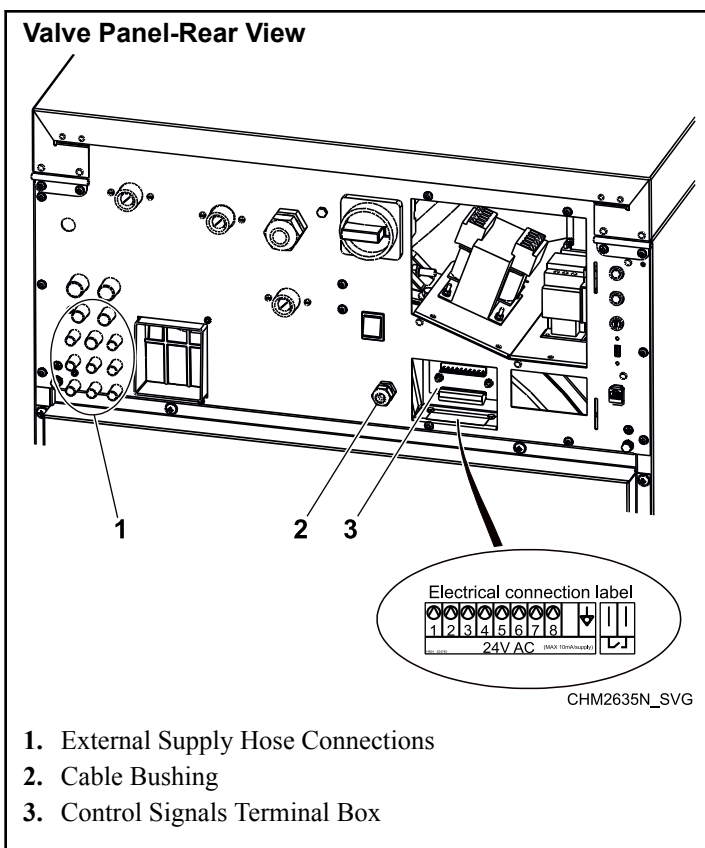

Figure 36
1. Facing the rear of the machine, locate the eight (8) 5/16 inch [8 mm] supply hose connections found on the left-hand side of the valve panel. Refer to *Figure 36*.
The electric connection for supply control signals is available on the rear panel. Refer to *Figure 36*. At the terminal box, there is a label for electric connection. Detail on connection of signals can also be found on the electric scheme of the machine.